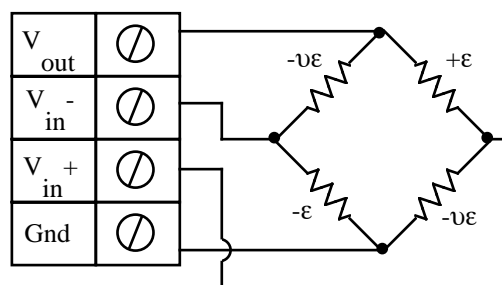

Fig 3.17 - Load Cell Measurement
9. Wire your voltage source per figure 3.17, and refer to the steps at the beginning of this chapter for more information on how to set up your sensor.^{5,10}